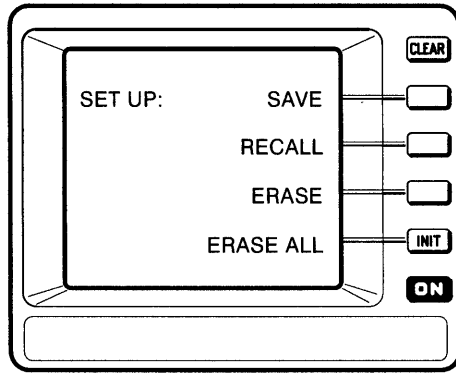

Figure 3-28: The Setup Menu
- Step 2:** Press the **SETUP** button on the top panel to invoke the setup menu, as shown in Figure 3-28.
- Step 1:** Press the **SETUP** button on the top panel to invoke the setup menu, as shown in Figure 3-28.
- Step 1:** Press the **SETUP** button on the top panel to invoke the setup menu. The display appears as shown in Figure 3-28.